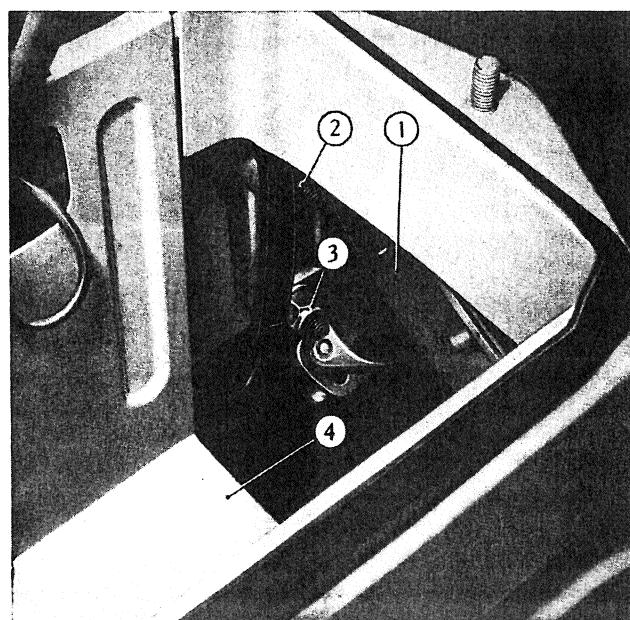

Fig. 327 - Detail of steering box mounting.
- Pull battery out of its seat, to gain access to upper self-locking nut (2, fig. 327) securing steering box to body.
- Unscrew the lower self-locking nut (3, fig. 327) and the lateral nut on the opposite side.